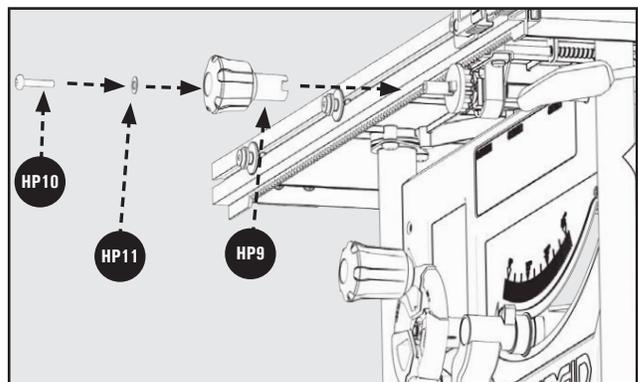

Figure 13
1. Insert and tighten Hex Socket screw (HP10) through Flat Washer (HP11), into Fence Adjustments Knob (HP9) as shown in Figure 13. Make sure the groove in the knob aligns with the rib on the pinion.